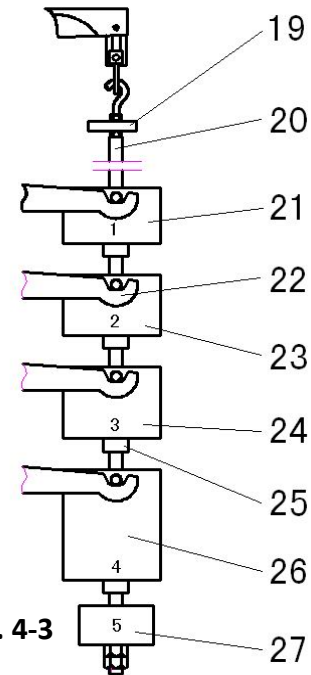

Fig. 4-3
4. The Installation of the Weight Group (Fig.4-3)